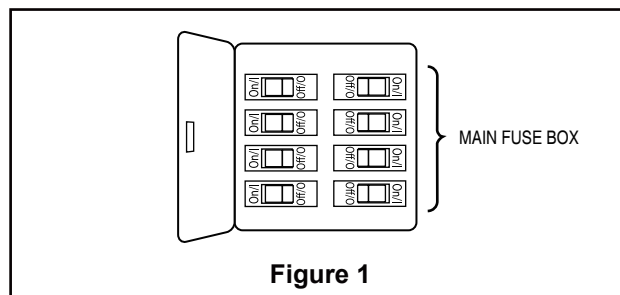

Figure 1
- ☐ **1.** Restore electrical power to the outlet box by turning the electricity on at the main fuse box. (Figure 1)